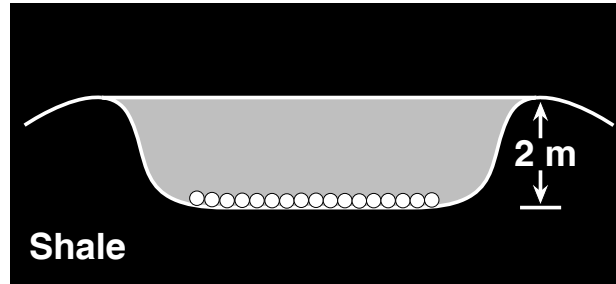

Figure 1.
An ancient channel, enclosed in shale and filled with very fine sand is 2 m deep (Fig. 1). The floor of the channel is mantled by a layer of 1 cm diameter, spherical pebbles. (1) What was the average flow velocity in the channel? (2) Was the sand transported as bedload or suspended load?